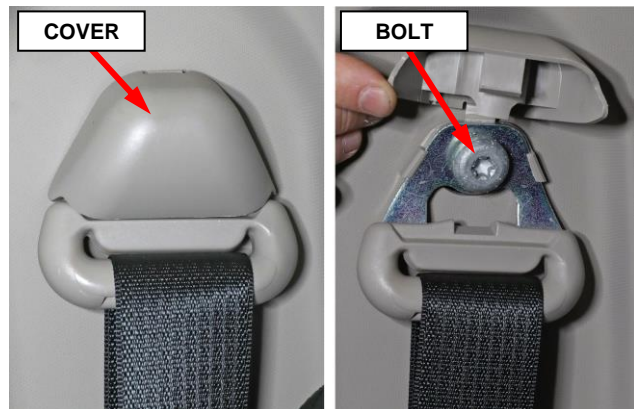

Figure 74 – Seat Belt Turning Loop
13. On the C-pillar, lift the seat belt turning loop cover then remove the turning loop bolt (Figure 74).